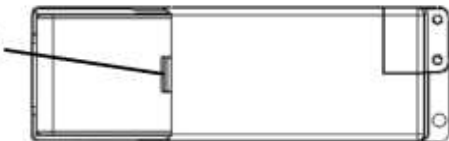

Fig. 2
- Remove the terminal cover on the driver by inserting a screwdriver and gently prying open (see Fig. 2)